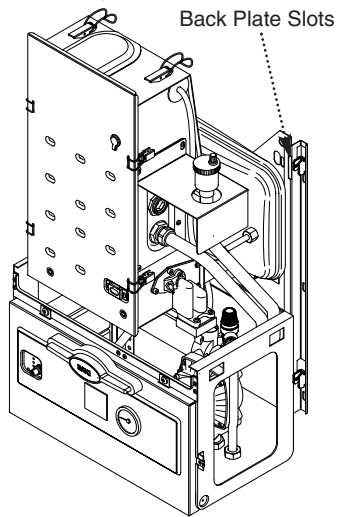

Fig. 70
2. Offer the combustion box assembly up to the wall plate and locate the slots on the back plate on to the hooks on the wall plate (Fig 70 & 71).